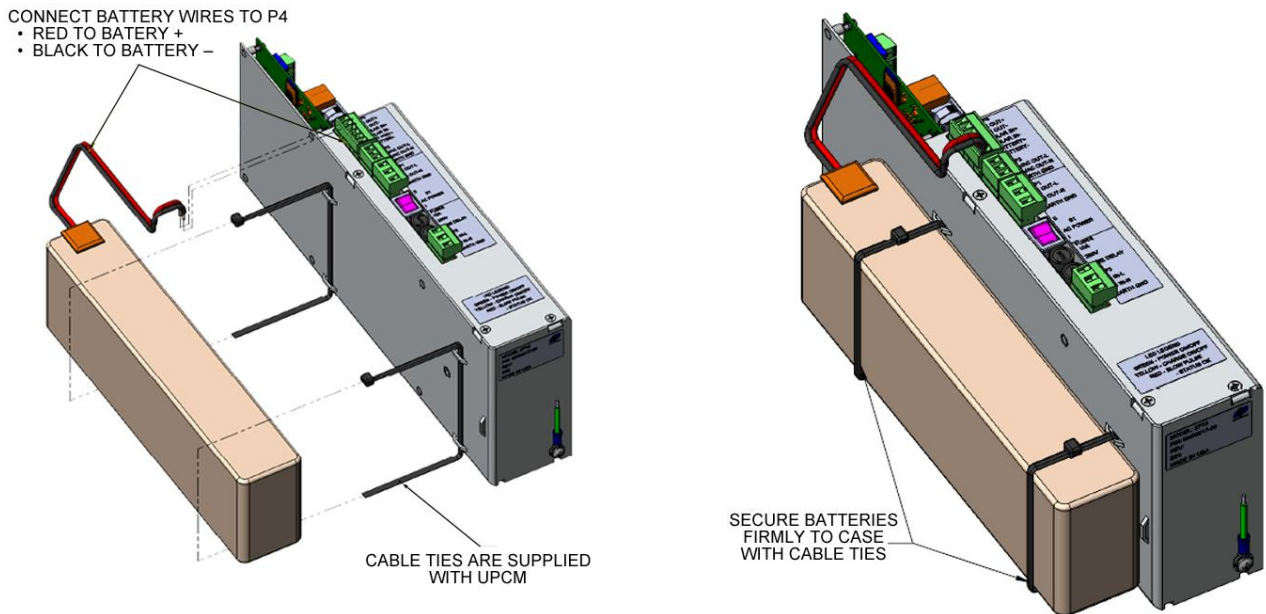

Figure 11. Installing Backup Battery
Figure 11 illustrates how the backup battery is installed on the UPCM.
1. Insert the cable ties into the backup battery mounting slots on the side of the UPCM as shown in Figure 11. The cable ties must have a length of at least 40 cm (16").